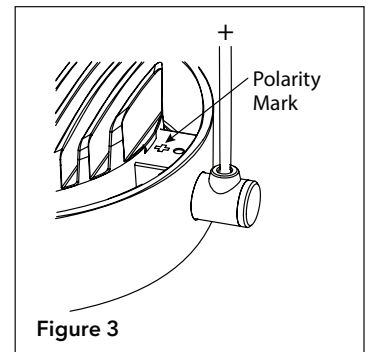

Figure 3
Step 3. Check polarity of each power wire as indicated on luminaire (Fig. 3).